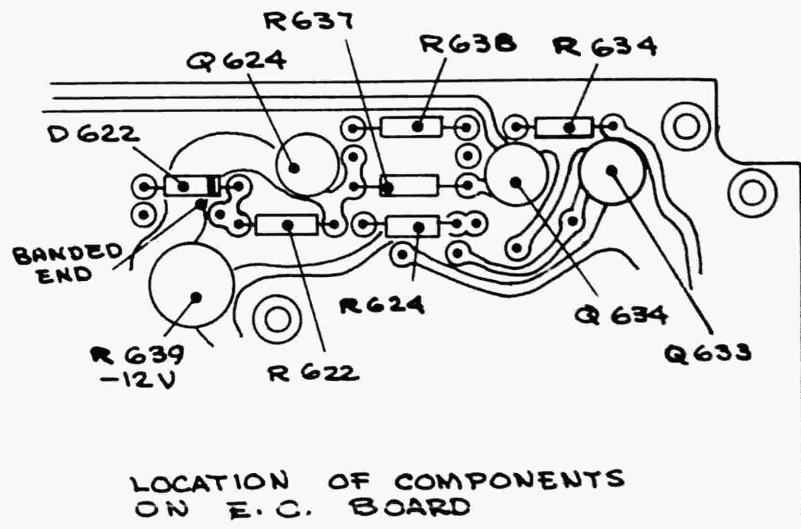

FIG. 1
- 3. Refer to Fig. 1 and replace the following parts with the new parts from the kit: